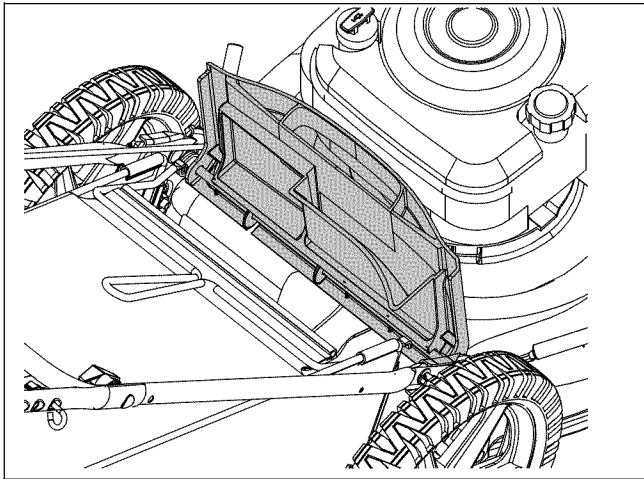

Figure 8
- Lift the rear discharge door and place the grass catcher on the pivot rod. Let go of discharge door so that it rests on the grass catcher. See Figure 8 .